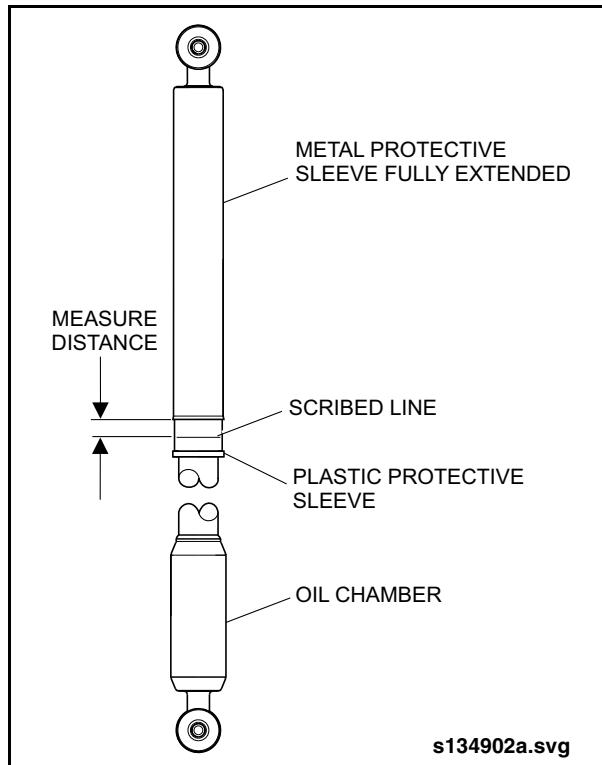

Fig. PM-22: Damper Measurement
8. Retract the piston upwards until the plastic protective sleeve is fully extended. Measure the distance between the edge of the metal protective sleeve and the mark scribed on the plastic protective sleeve. See "Fig. PM-22: Damper Measurement" on page 48.